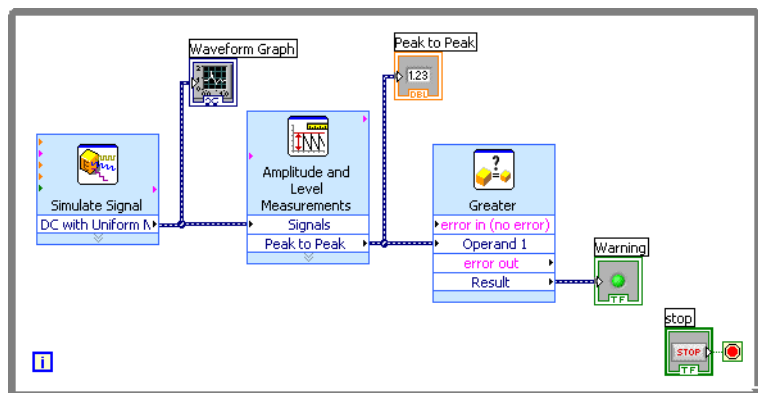

Figure 2-5. Block Diagram of the Warning Light VI
1. On the block diagram, move the **Warning** terminal to the right of the Greater Express VI. Make sure the **Warning** terminal is inside the gray loop, as shown in Figure 2-5.
The block diagram should appear similar to Figure 2-5.